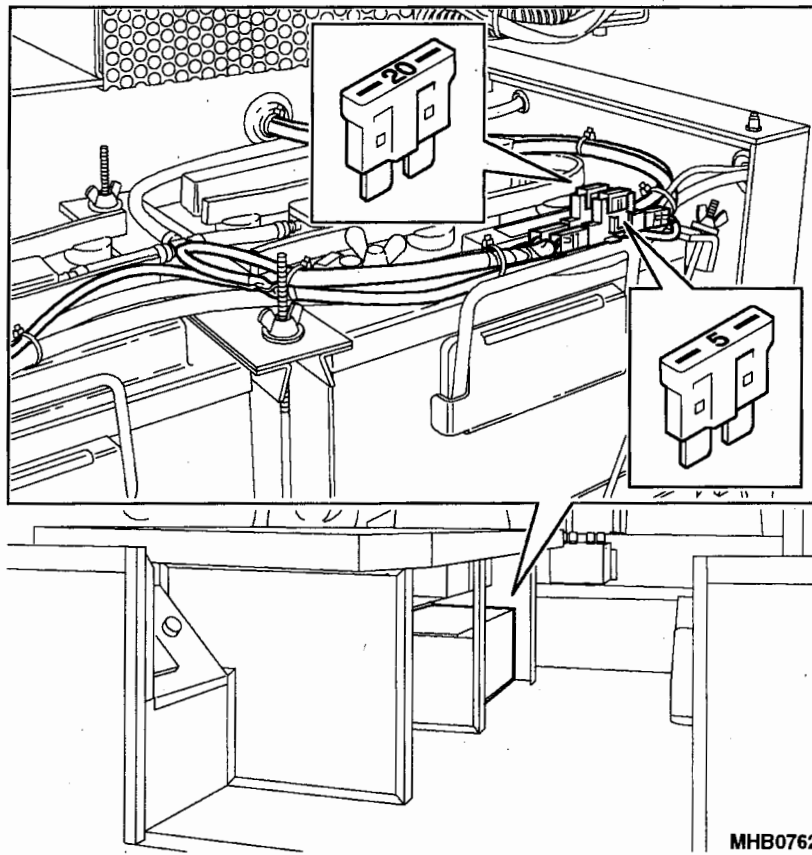

Fig 3 In line fuse
- 4 To access the inline fuses (Fig 3) remove the battery cover.